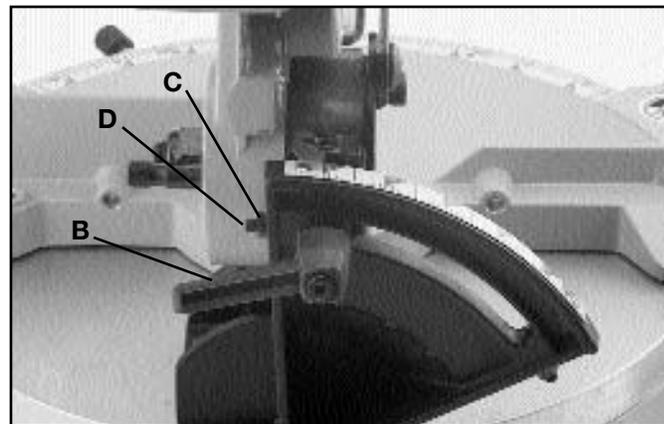

Fig. 22
4. If an adjustment is necessary, loosen bevel lock handle (B) Fig. 22, and tilt cutting arm until the blade is at 90 degrees to the table. **NOTE:** It may be necessary to loosen locknut (C) and set screw (D) to accomplish this. Then tighten bevel lock handle (B).
5. Loosen nut (C) Fig. 22, and tighten set screw (D) until it bottoms. Then tighten locknut (C).